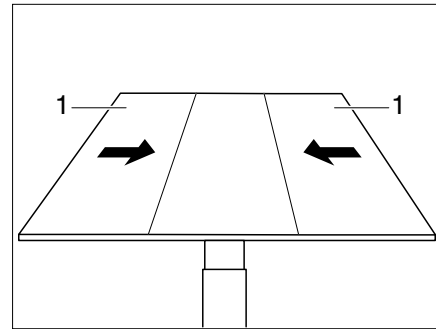

Fig. 106 Sliding the side parts against the middle part
- Push the outer parts (Fig. 106,1) of the table against the middle part.